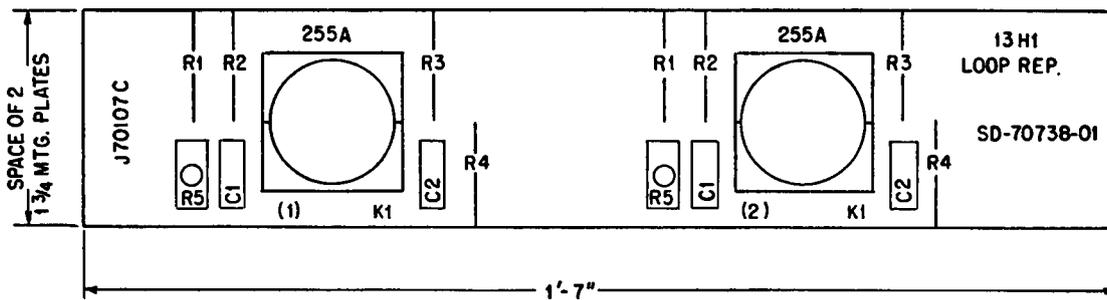

FIG. 4—13H1 LOOP REPEATER UNIT
4.02 Fig. 4 shows a face view of the 13H1 repeater unit which is shop wired and consists of two repeaters mounted on a mounting plate 3-1/2 inches wide and 19 inches long for bay mounting. Thirty-three repeater units may be mounted in one 11-foot, 6-inch bay.